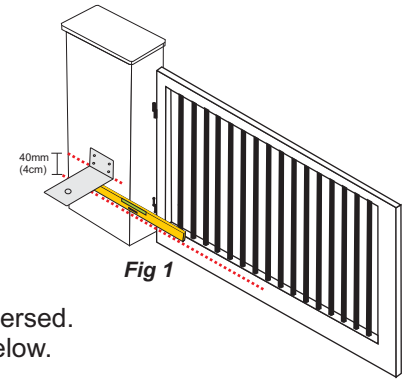

Fig 1
1. On the driveway itself at the furthest point from the hinge as illustrated in the diagram below (Fig 1).
**Never install the arms with an inversion of the primary arm towards the gate as per fig 1 and 2.**